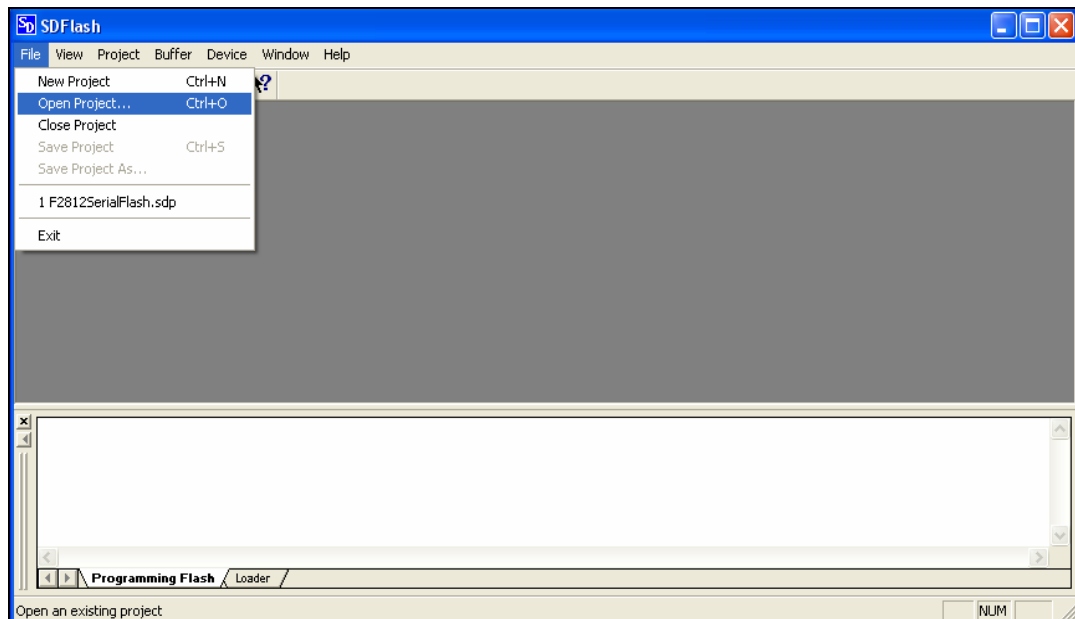
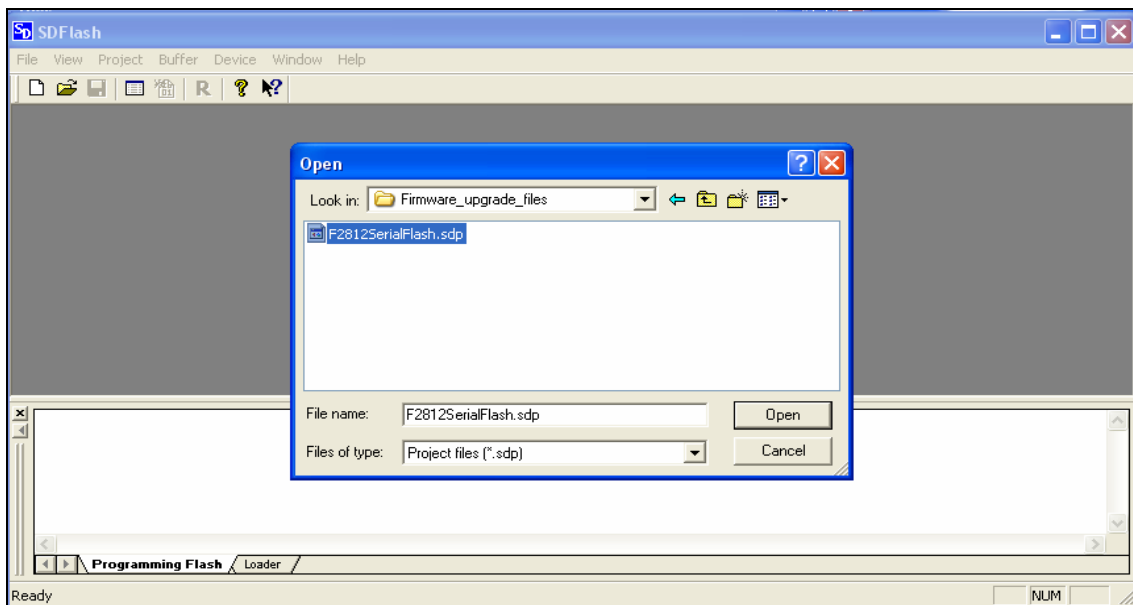

Figure 9: End-User: Using SDFLASH for the first time
Figure 10: End User opening F2812SerialFlash.sdp project for the first time
- 3.1.1. Go to *File*. See *Figure 9* and *Figure 10*.